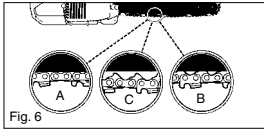

Fig. 6
CAUTION: If saw chain is TOO LOOSE or TOO TIGHT, the sprocket, bar, chain, and crankshaft bearings will wear more rapidly. Study Fig. 6 for information concerning correct cold tension (A), correct warm tension (B), and as a guide for when saw chain needs adjustment (C).